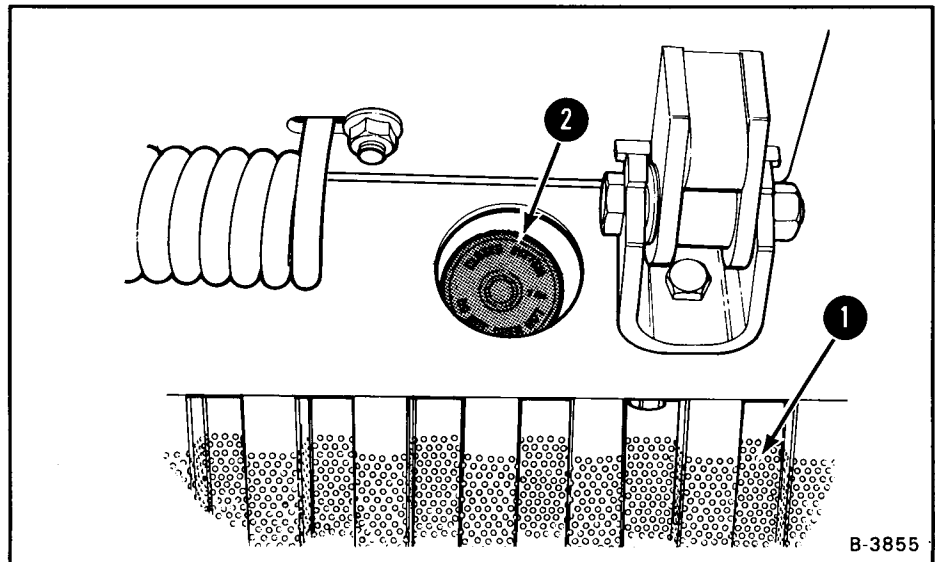

Fig. 54 Radiator Cap
2. Remove the grill (Fig. 54, Item 1).
3. Remove the radiator cap (Fig. 54, Item 2). The grill must be removed to do this.